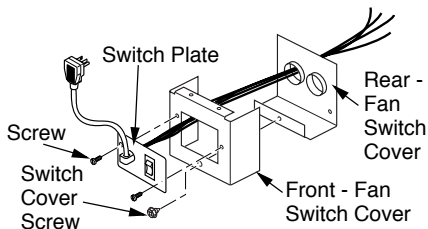

Figure 17 - Installing Switch Plate to Fan Switch Cover
9. Install the switch plate on front of fan switch cover with 2 #10 screws provided (see Figure 17, page 16). Using screw removed in step one, reconnect front and rear of fan switch cover.
- Locate fan switch cover. Remove bottom screw to remove back portion of the cover (see Figure 17).
- Install the switch plate on front of fan switch cover with 2 #10 screws provided (see Figure 17). Using screw removed in step one, reconnect front and rear of fan switch cover.